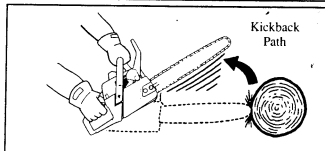

Figure 2
2. **Never let the moving chain contact any object at the tip of the guide bar.** Figure 2.